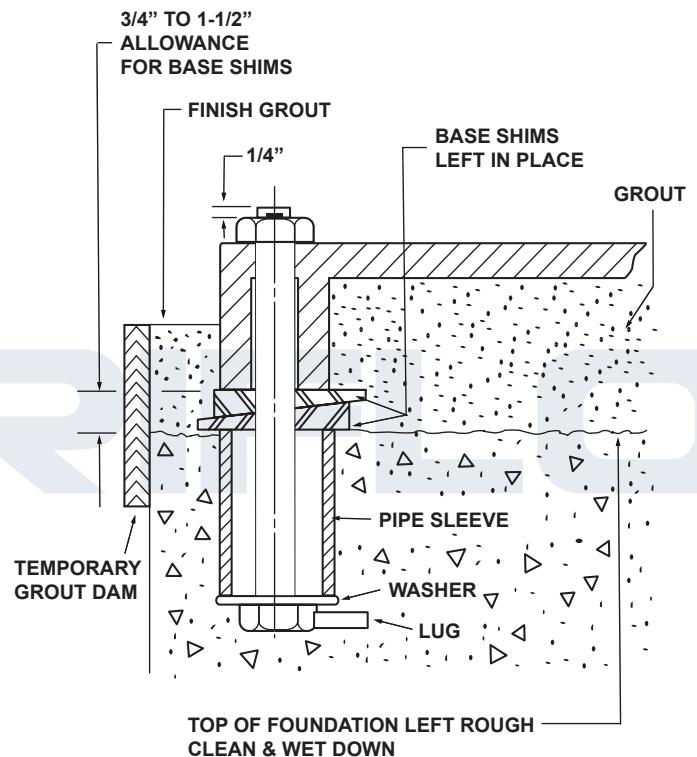

FIGURE 4 - BASEPLATE FOUNDATION
3. Level the pump baseplate assembly. If the baseplate has machined coplanar mounting surfaces, these machined surfaces are to be referenced when leveling the baseplate. This may require that the pump and motor be removed from the baseplate in order to reference the machined faces. If the baseplate is without machined coplanar mounting surfaces, the pump and motor are to be left on the baseplate. The proper surfaces to reference when leveling the pump baseplate assembly are the pump suction and discharge flanges. **DO NOT** stress the baseplate. **DO NOT** bolt the suction or discharge flanges of the pump to the system piping until the baseplate foundation is completely installed. Use shims and wedges to level the baseplate to the foundation. See FIGURE 4. Check for level in both the longitudinal and lateral directions. Shims or wedges should be placed at all baseplate anchor bolt locations and in the middle of the baseplate if the base is more than five feet [1.5 meters] long. Do not rely on the bottom of the baseplate to be flat. Standard base plate bottoms are not machined and it is not likely that the field foundation surface is flat either.